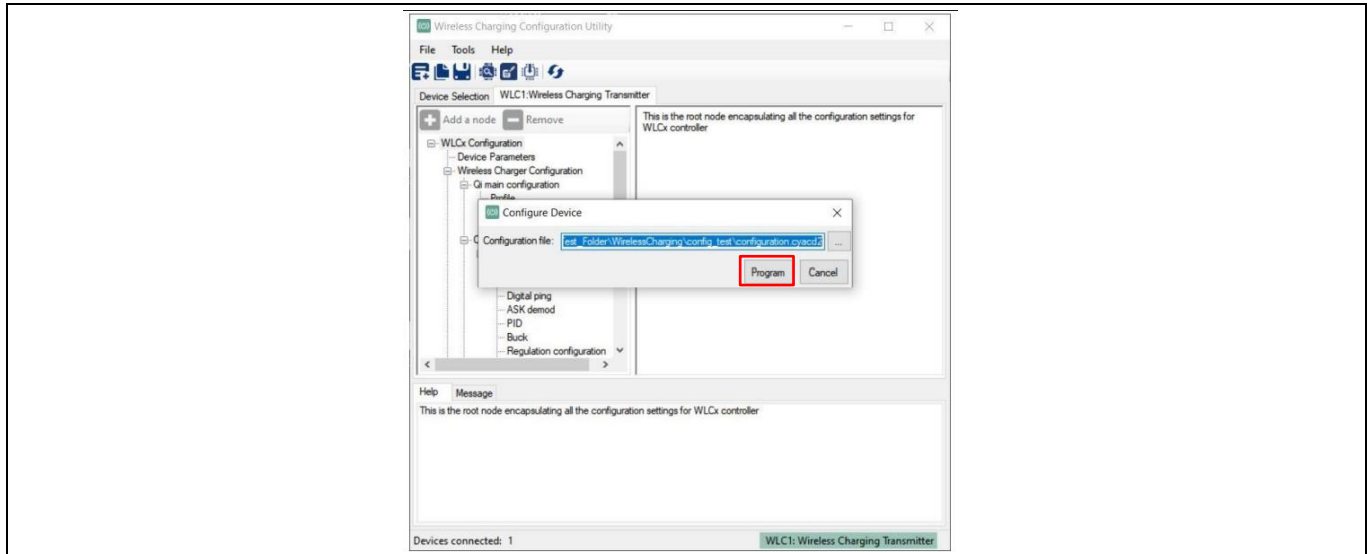

Figure 13 Device configuration dialog
- h) In the **Configure Device** dialog box, specify the path of the updated configuration file and click **Program**, as shown in Figure 13.